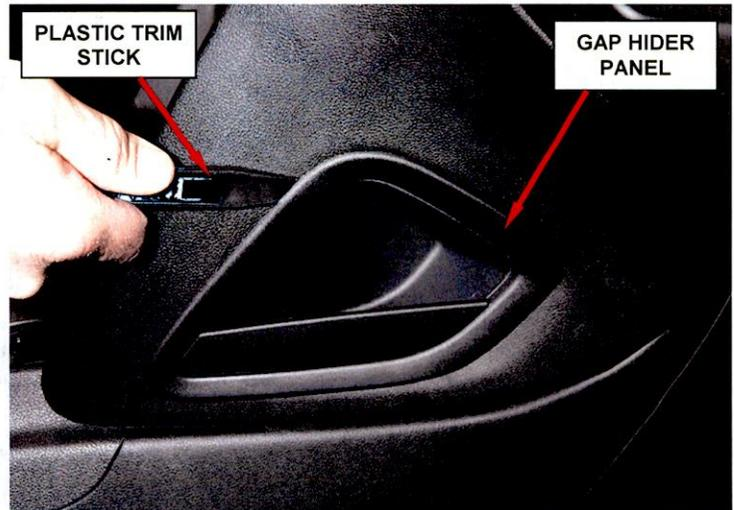

Figure 6 – Gap Hider Panels on Side of Center Console (right side shown)
i. Remove and save the right and left gap hider panels on the side of the upper console assembly (Figure 6).
- l. Install the right and left gap hider panels (Figure 6).